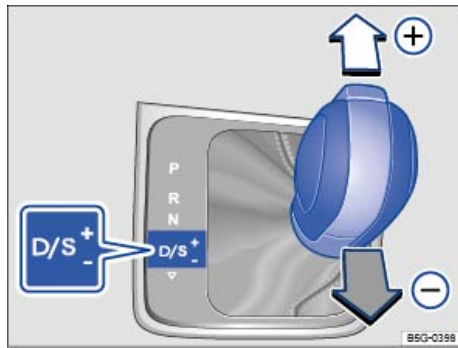

Fig. 136 Selector lever in Tiptronic position.
- Briefly push the selector lever forward (+) to upshift into a higher gear or backward (-) to downshift into a lower gear ⇒ fig. 136.